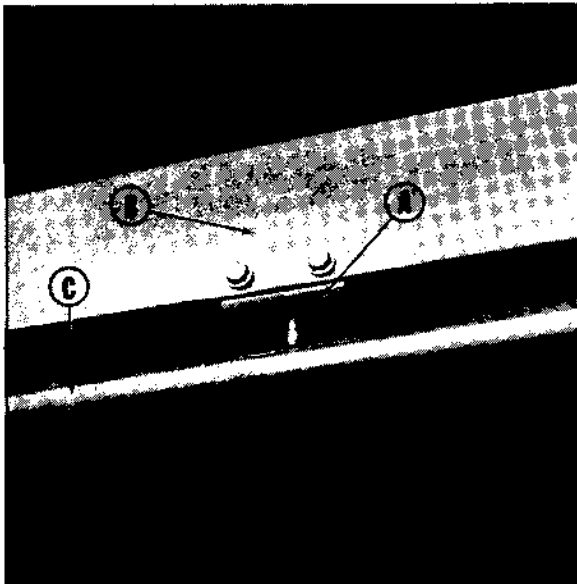

Fig. 46
14. Install the switch bracket to the horizontal channel with two (2) 5/16-18 X 3/4" FHSL screws and secure with FHSL nuts. *(See Fig. 46).
47. Install overtravel cut-off switch to angle bracket at bottom of horizontal channel. Position switch as near pipe as it can be positioned. Using plastic ties, clamp the electrical cable to the hydraulic hose previously installed. (See Figs. 46 and 48).